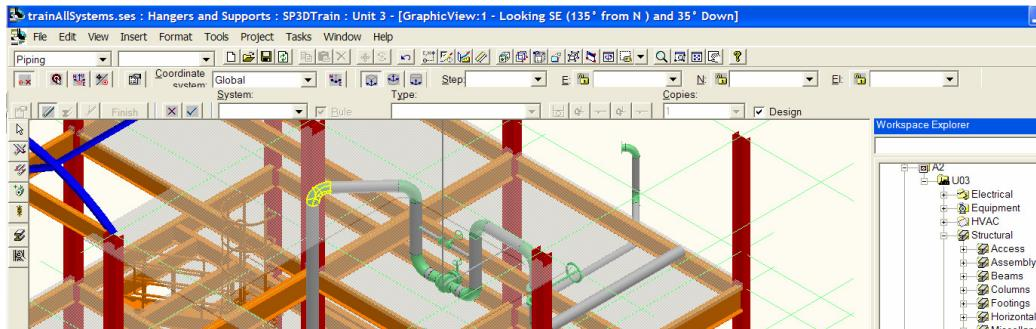

Figure 23: Selected Elbow
- Place a designed support by point selecting the elbow on pipeline **U03/Water/300-W**, as shown in Figure 23.